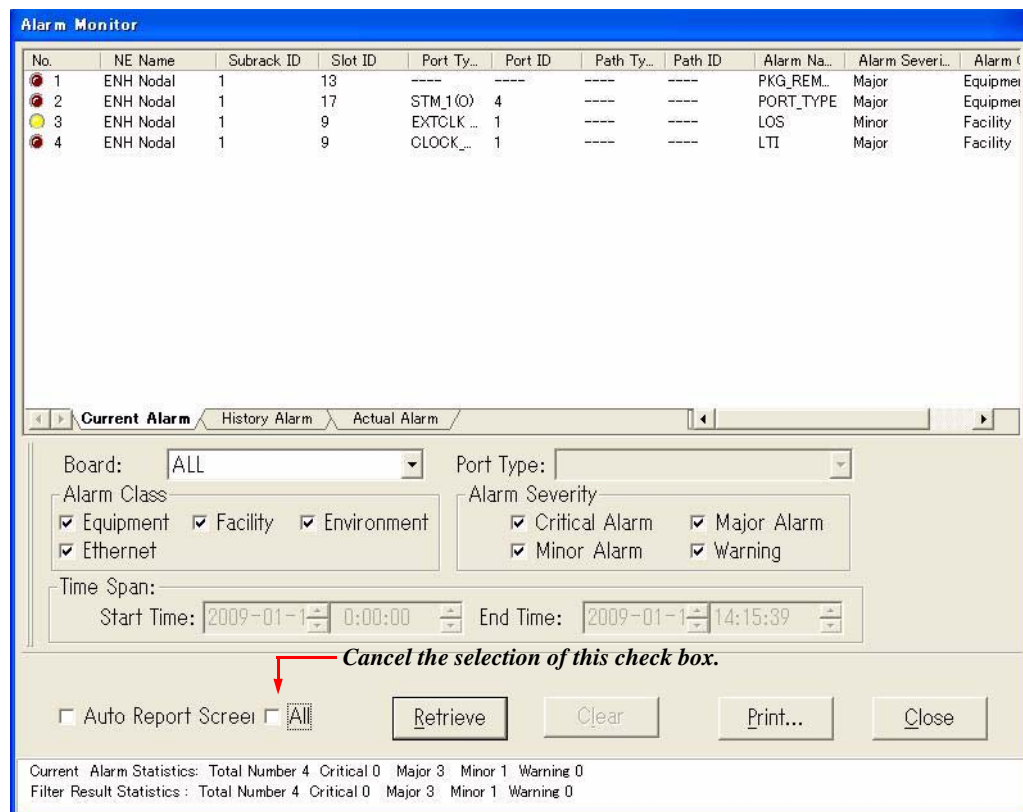

Fig. 4-7-3 Browsing Current Alarms (Clear the Selection of 'All' Check Box)
- 1 Clear the active state of **All** check box by clicking. The window shown in **Fig. 4-7-3** appears: